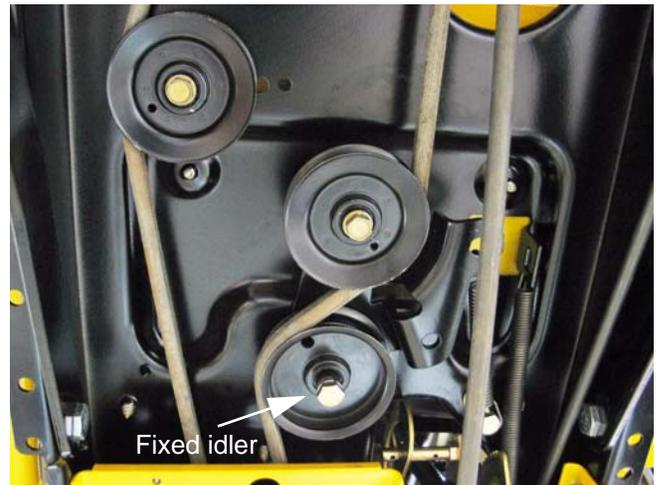

Figure 23.12
23.12. The fixed idler pulley can be removed from later models using a single 1/2" wrench. The bolt that holds the fixed idler to earlier models threads into a 3/8" nut above the tractor frame. The bolt can be removed from the nut using a pair of 9/16" wrenches without removing the fenders. See Figure 23.12.